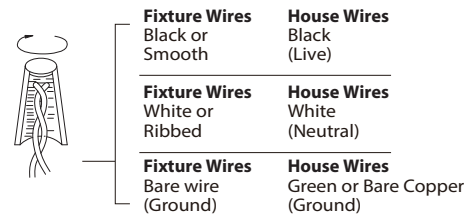

Fig. 4 Sealing
11. Secure fixture to the wall plate using the back plate screw (B) and the rubber gasket (E).
12. To prevent moisture from entering the outlet box and causing a short, use clear caulking (i.e. indoor/outdoor silicone sealant) to outline the outside of fixture wall plate where it meets the wall. Leave a space at the bottom to allow moisture to escape (Fig. 4).